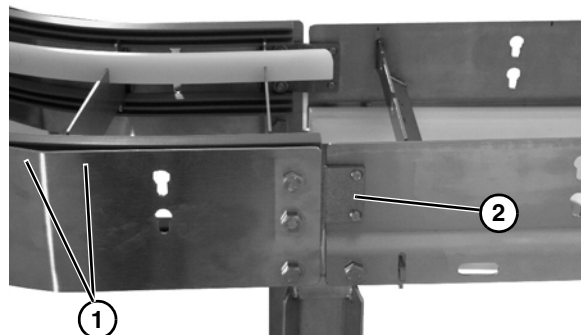

Figure 10
5. When securing straight section to curved section on outside curve (Figure 10, item 1) make sure offset plate (Figure 10, item 2) is to the outside of straight section.